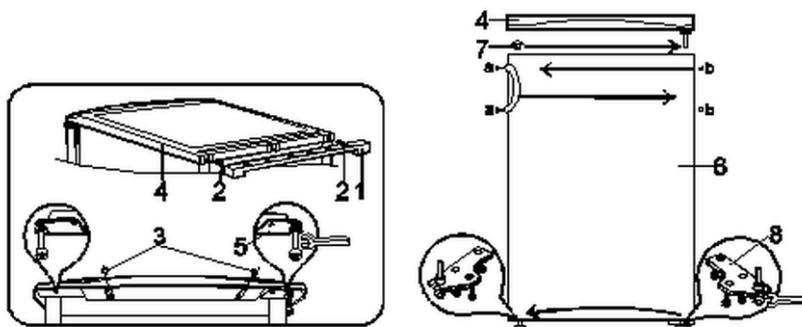

Fig. 5
1. Remove the bracket (1, Fig. 5) and undo screws (2).
2. Remove both screws (3) securing the top plate of the appliance.
3. Remove the top plate (4).
4. Remove the bracket (5) including the support pin with the washers in place.
5. Remove the support pin with washers from the bracket (5) and screw it back into another hole in the bracket (5).
6. Remove the door (6) of the appliance.
7. Remove the locking plug (7) from the door and push it into the hole on the opposite side.
8. Remove the bottom bracket (8) including the support pin with the washers in place. Unscrew the support pin counter-clockwise. Rotate the bracket (8) by 180° and screw in the support pin again. Fix the bracket on the opposite side.
9. Set the cooler door on the support stud, moving it from the support (8). Screw the bracket (5) together with the support pin with the washers in place.
10. Apply the top plate (4).
11. Tighten screws (2) and (3) firmly.